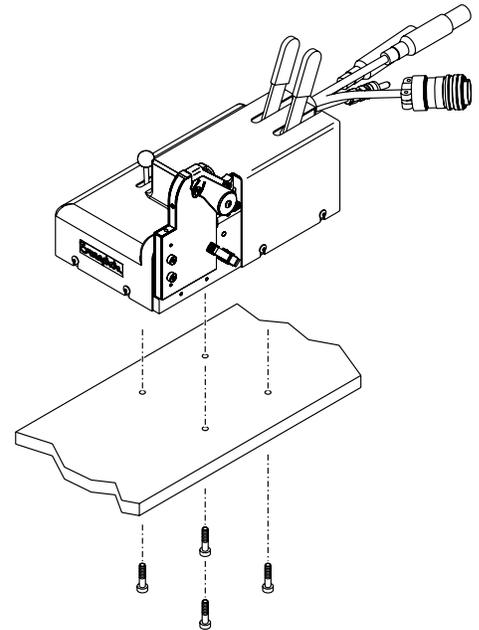

Figure 4 Optional Mounting of the Weld Head to the Bench
5. Insert four 1/4 in. x 20 machine screws of appropriate length (not included) through the workbench into the weld head unit. See Figure 4.